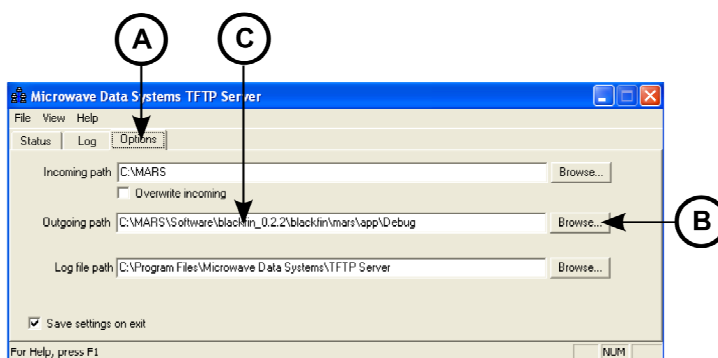

Figure 22. TFTP Server Screen
2. Launch the TFTP server on the PC. If using the GE MDS TFTP Server, click the **Options** tab (A in Figure 22 below) and modify the **Outgoing path** (B) using your browser to point to the folder where the reprogramming package (.mpk file) is located. The path (C) will be displayed once the operation is completed. Leave the application running until reprogramming on the radio is complete.